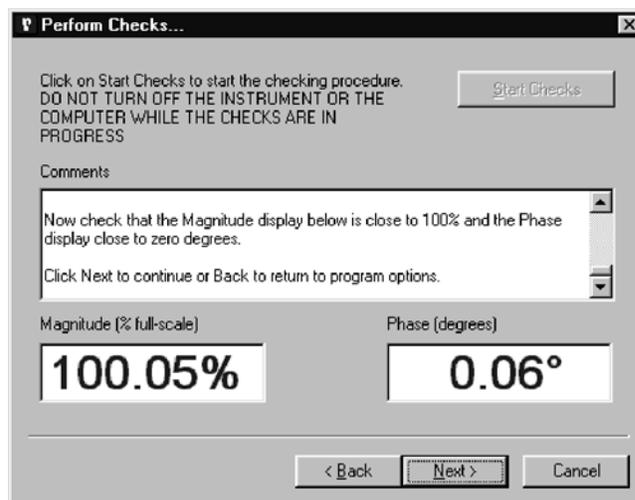

Figure 2-6, Initial Checks Procedure, Perform Checks Screen - Outputs Displayed
- 13) Once communications have been established the Comments section shows a list of commands being sent to the FRD2000 which set it to a defined state. Once this has happened, the signal magnitude and reference phase are shown in the lower section of the display, as shown in figure 2-6.